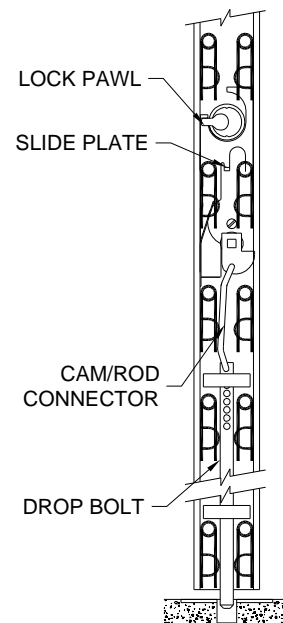

Fig. 3-4
6. Calibrate the closing channel drop bolt by following these steps (shown in Fig. 3-4):
**PLEASE NOTE:** The spring coil on the chain retainer can be installed in either direction to fit around objects in the channel. Place the springs in the lock area so that they **DO NOT** interfere with the operation of the lock pawl or the slide plate. (Fig. 3-4 on page 4)